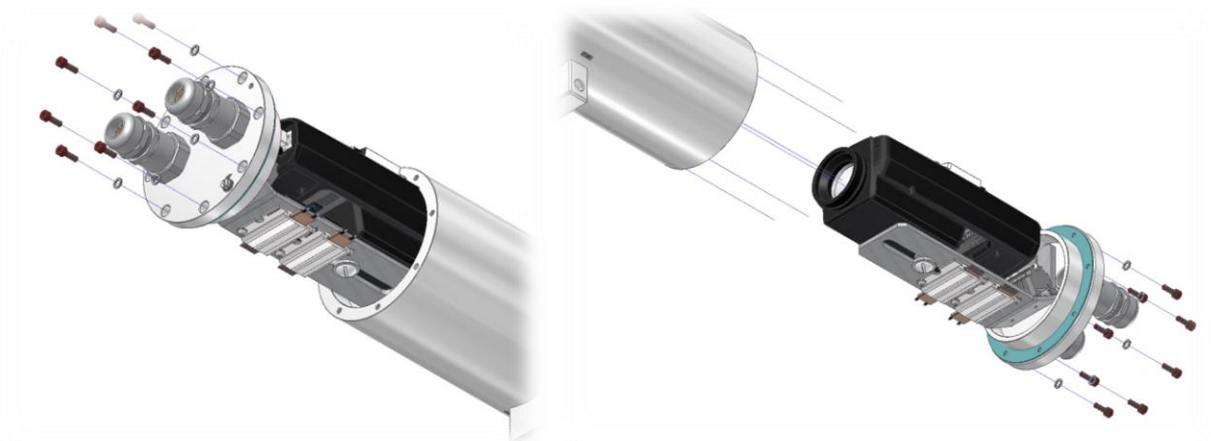

Figure 10-7 Opening of the ExCam T08-VAx.x.x.x
- Use adequate tools or the hex-wrench included in the delivery scope and pay attention not to lose the associated feather rings (DIN 127 A) (q.v. figure 10-7)
- Pull out very carefully the lead flange in a straight manner (q.v. figure 10-7), ensuring that it does not tilt. Due to the created lower pressure, this might require some additional effort